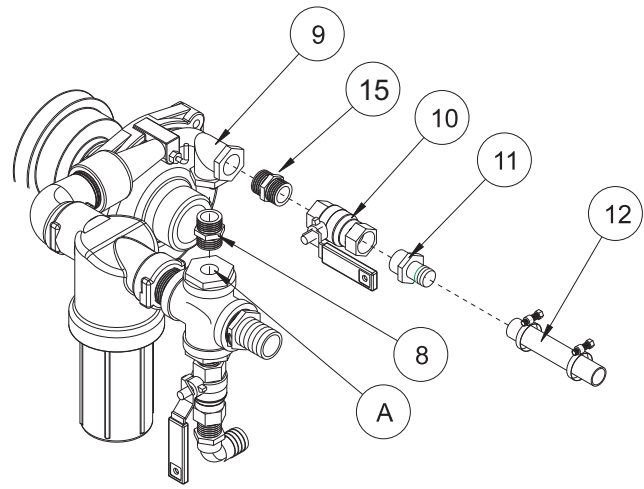

Figure 2
13. **For 1604P:** Remove hex plug from "A" and assemble as shown in Figure 2.